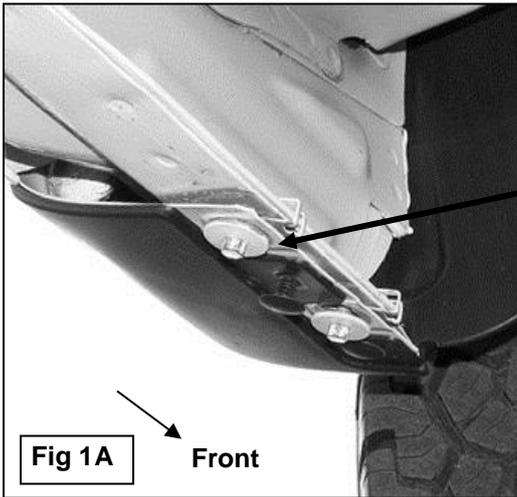

Fig 1A
1. Starting at the front of the driver side of the vehicle, remove the two small hex bolts and the metal clips holding the bottom of the fender to the body, **(Figure 1A)**. **NOTE:** Use a small flat screwdriver to spread the clip apart for easy removal. Due to body panel misalignment from the factory, it may be necessary to open these holes slightly with a 3/8" drill bit, **(Figure 1B)**.